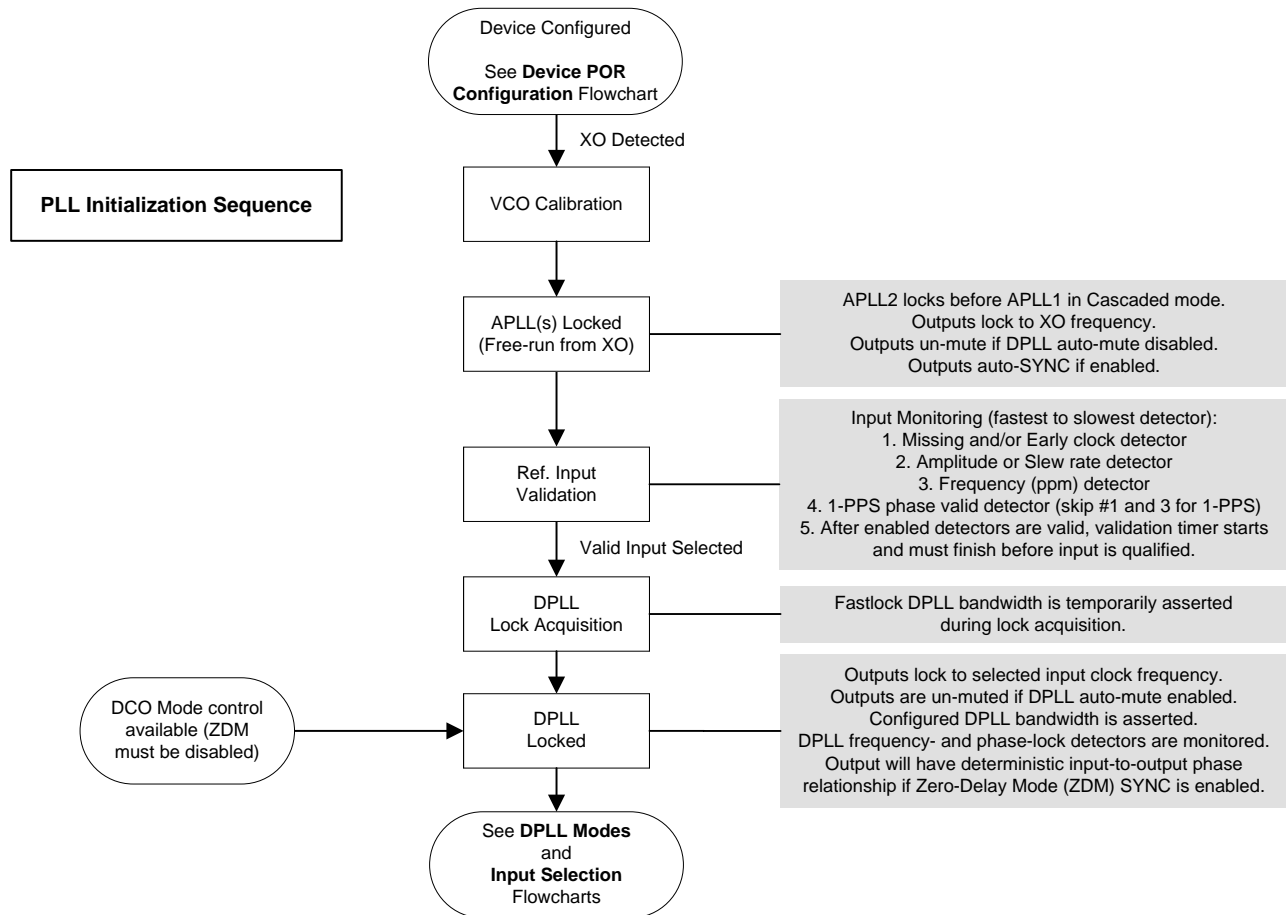

图 55. PLL Start-Up Sequence
**图 55** shows the general sequence for PLL start-up after device configuration. This sequence is also applicable after a device soft-reset or individual PLL soft-reset. To ensure proper VCO calibration, it is critical for the external XO clock to be stable in amplitude and frequency prior to the start of VCO calibration. Otherwise, the VCO calibration can fail and prevent start-up of the PLL and its output clocks.